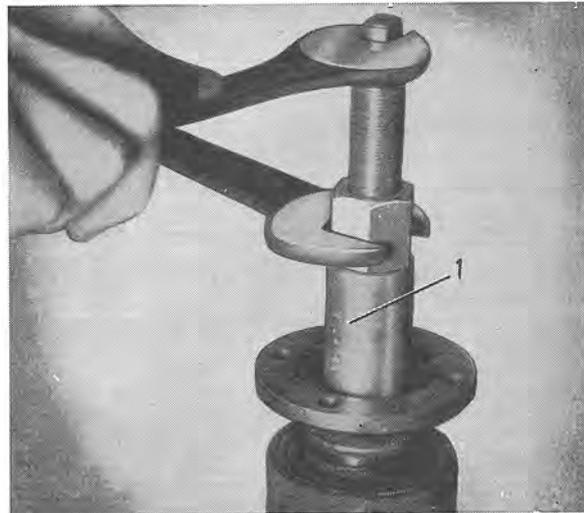

Fig. 4-140. Fitting the flange
4. Press on the flange with the help of press tool SVO 1845, see Fig. 4-140. Fit the washer and nut.